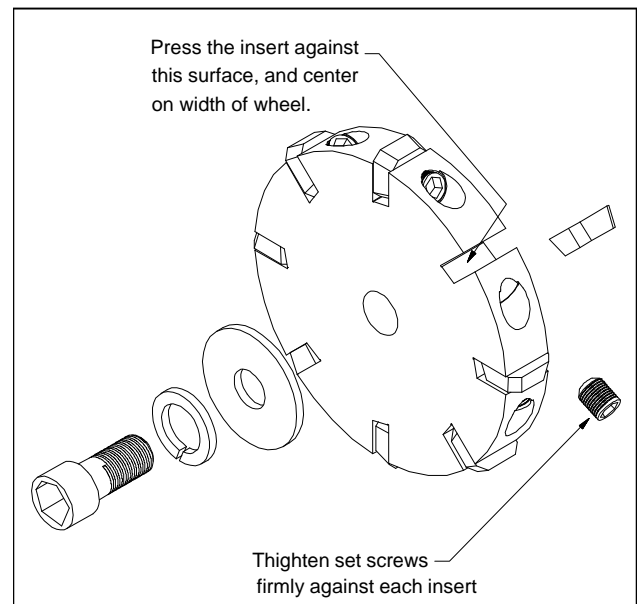

Figure 18: Installation of inserts
Press the insert against the bottom surface of the cavity (Figure 18). Center the insert on the width of the wheel. Tighten the set screw firmly to secure the insert.
2. Connect the ground wires (refer to Figure 18). These wires will be either green, or green with a white trace.